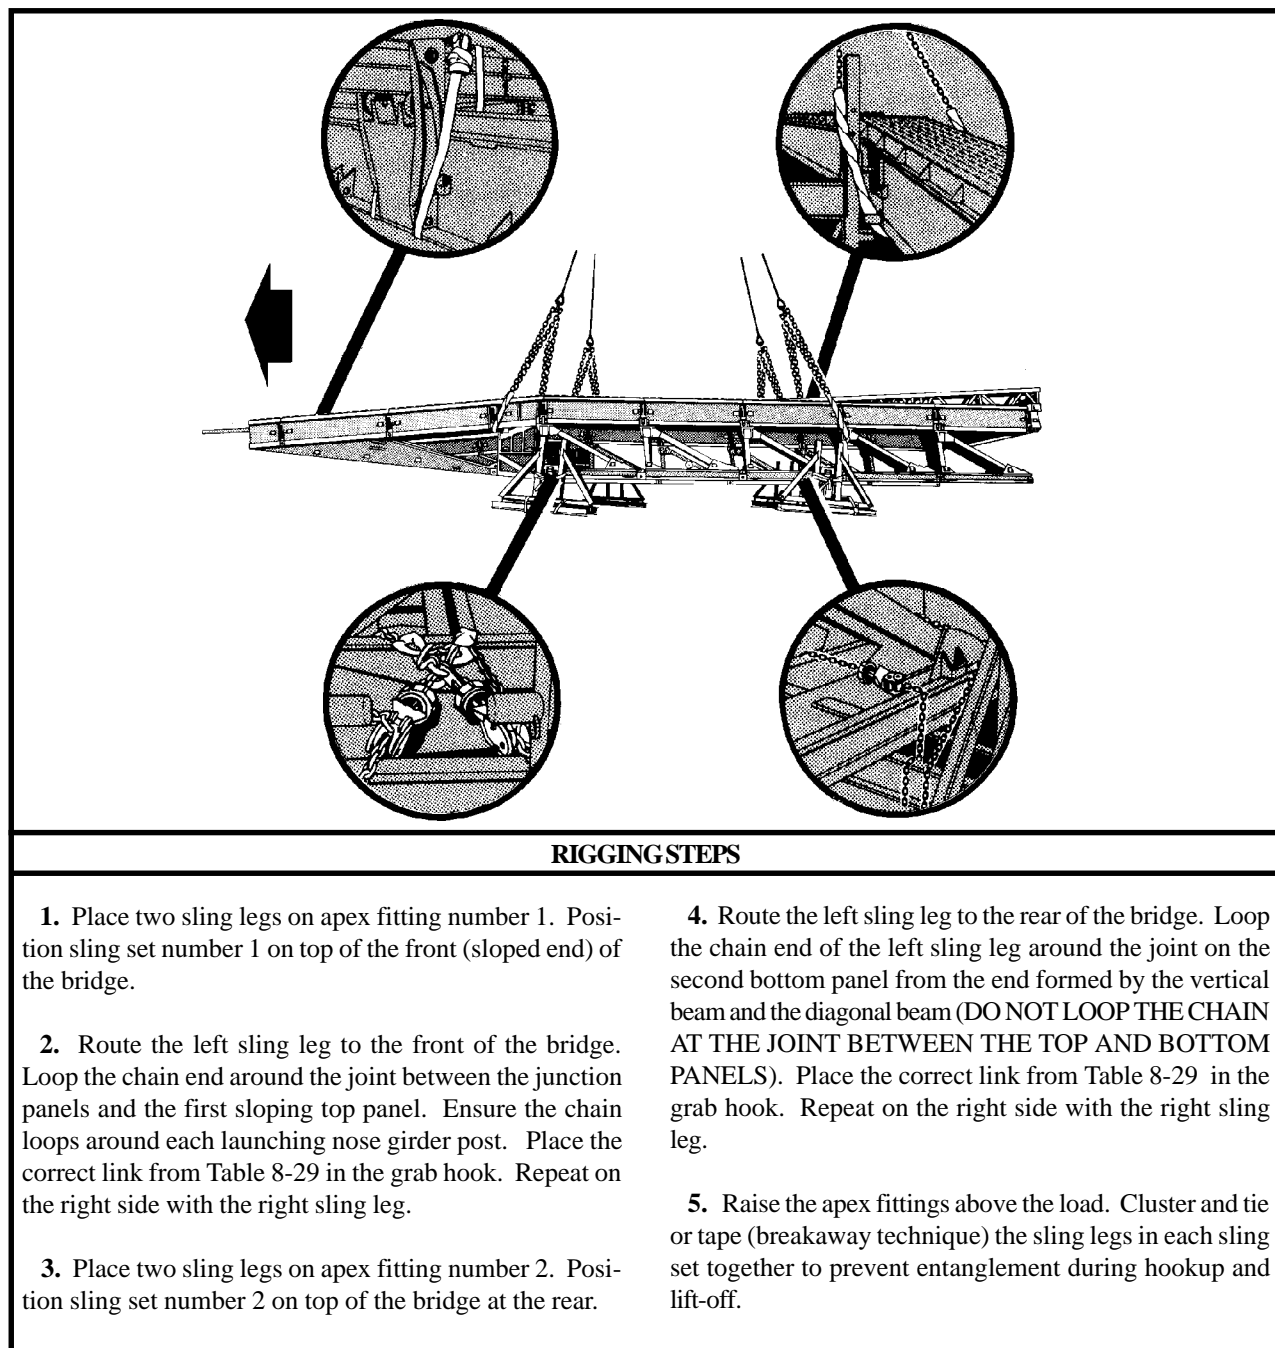

Figure 8-29. Medium Girder Bridge
(2) **Rigging.** Rig the load according to the steps in Figure 8-29.